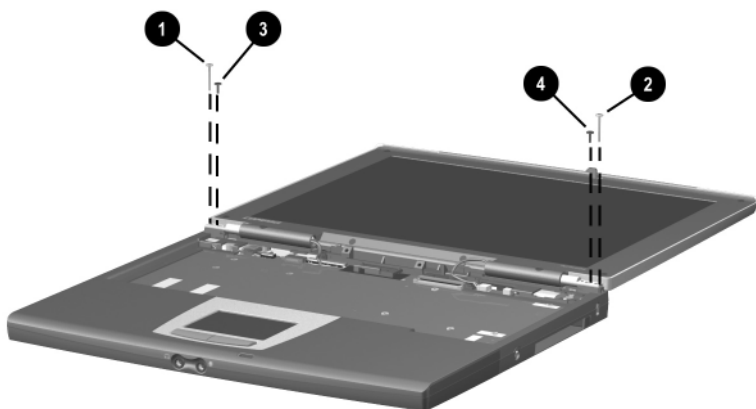

Figure 5-11. Installing the Display Screws
To ensure proper alignment of the display during replacement, loosely install the screws in the ①, ②, ③, ④ sequence indicated in Figure 5-11. Tighten the screws after all four have been loosely installed.